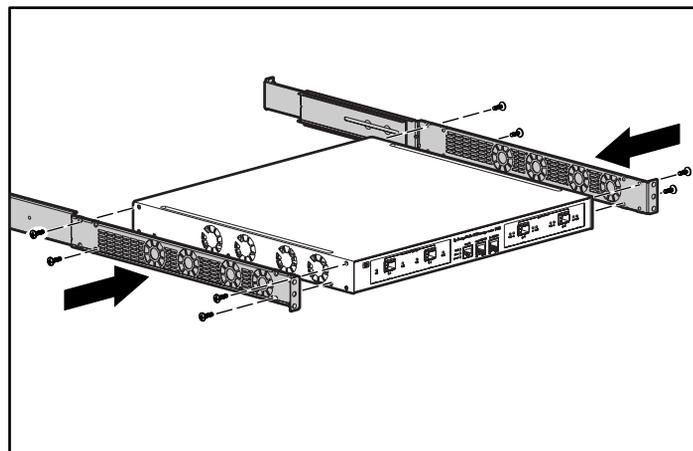

Figure 10: Attaching the rails
6. Align and attach the rails to the chassis using the supplied flat-head screws (see Figure 10).